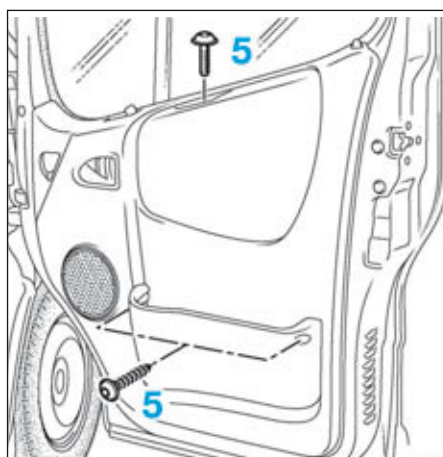

FIG.35
- Reposer les vis (5) (Fig.35).